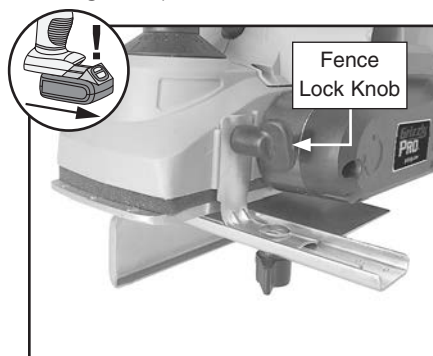

Figure 10. Fence installed.
3. Secure fence mounting bracket to planer using fence lock knob (see **Figure 10**).